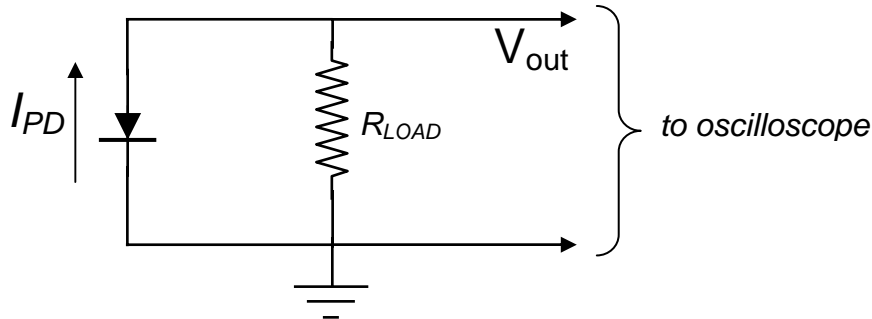

Figure 10.9: Photodiode with a resistive current-to-voltage converter.
The simplest way to read the current on a photodiode is to convert it to a voltage with a resistor as shown in figure 10.9 below. This circuit is very simple, but has the disadvantage that the resistor loads the photodiode which must produce a voltage across the resistor. The photodiode also has a capacitance proportional to its area which will also determine time response ($\tau = RC$): as this simple circuit makes clear, you cannot have high sensitivity and high speed at the same time.
2. Use an FDS100 Thorlabs photodiode to construct the circuit of figure 10.9 such that the current-to-voltage conversion is 10 mV/ μ A. Install the photodiode and the red LED in front of each other to maximize the amount of emitted light incident on the photodiode – ***fasten the photodiode and the LED securely so that they will not move.*** Also, you **should make sure that the LED is not saturating the photodiode.** Measure the rise time and fall time of the photo-current signal. You may increase the frequency on the function generator.